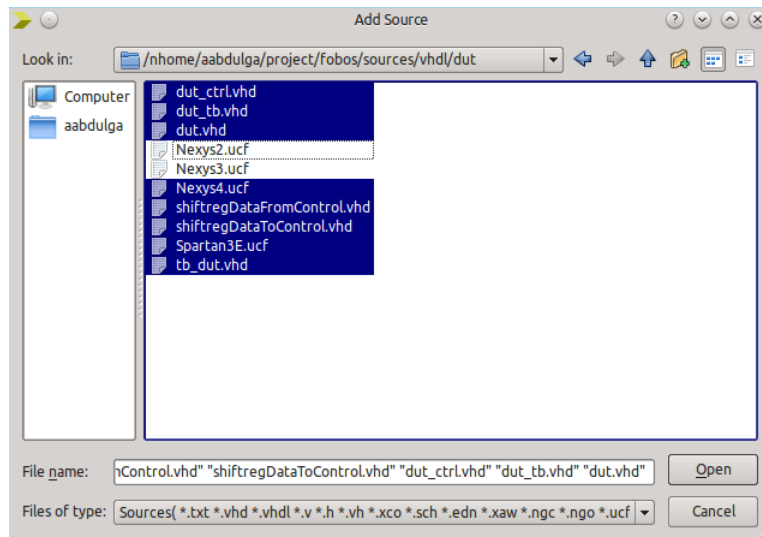

Figure 2.7: DUT Add Sources
3. Repeat the previous process to add all vhd files from `$fobos/sources/vhdl/DUT` and make sure to add the appropriate UCF file depending on the DUT board used (See Fig 2.7).